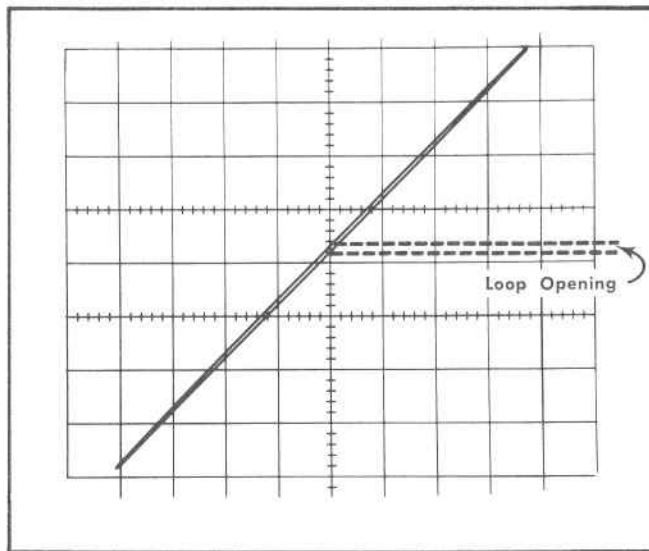

Fig. 6-27. Lissajous loop display for adjusting C415 (Table 6-10).
- If the loop opening (see Fig. 6-27) is more than 1.4 mm, dress the upper beam deflection plate leads to obtain minimum loop opening.